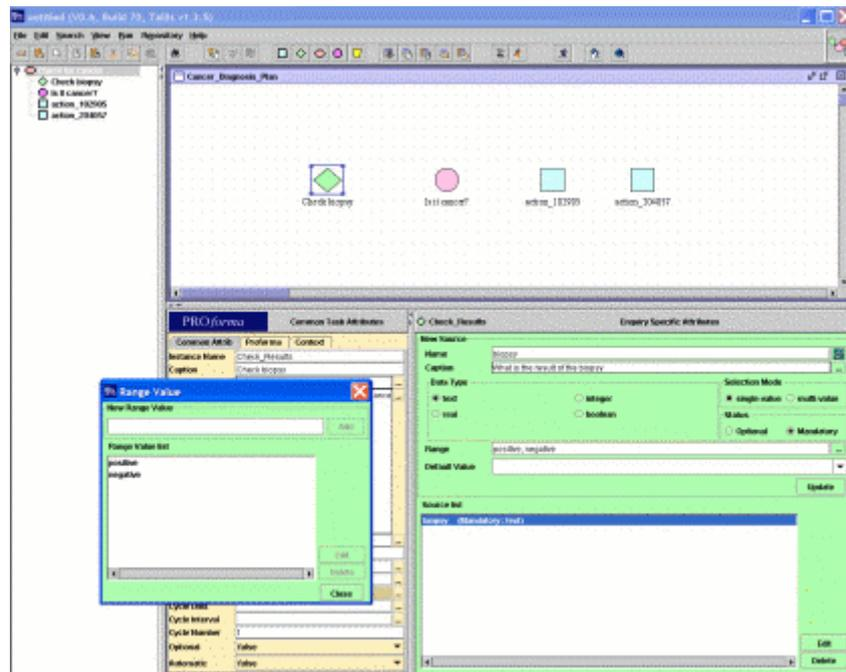

Figure 9: Generating a variable for the enquiry called 'biopsy'
- Now modify the specific task attributes of the enquiry. Enter the following values in the New Source pane (see Figure 9):